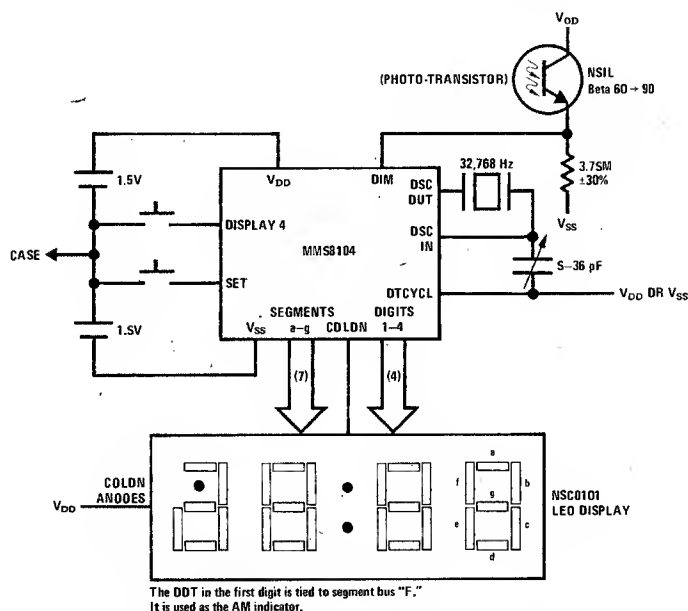

FIGURE 6. Typical Application of MM58104 in LED Digital Watch System
**Display Brightness Control:** The display brightness is a function of digit on-time which is a fraction of the digit multiplexers. The digit on-time varies from 1/8 to 7/8 of the digit multiplexer in steps depending on the logical levels of both "DIM" and "DTCYCL" inputs as shown in Table I. The "DIM" input has an internal pull-up resistor which will hold the open input at a logical "1." The logical levels at the "DIM" input can be established by a network as shown in Figure 6.